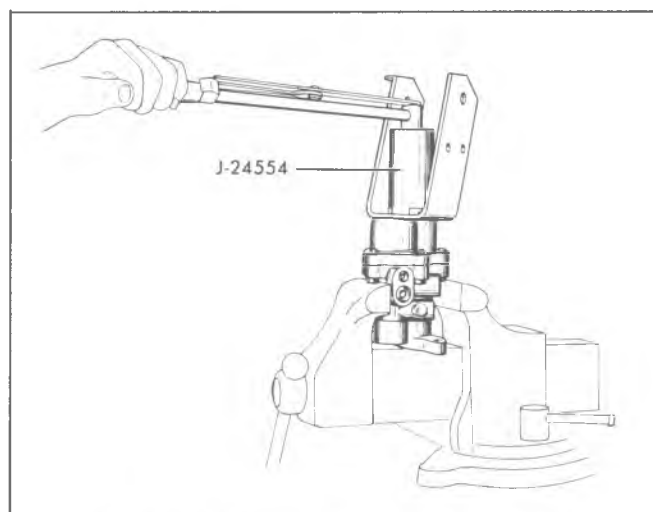

Fig. 5-15E--Installing Mounting Bracket Nut
21. Install the **NEW** bracket nut with the staking groove outward on the threaded hub of the booster. Using Tool J-24554 and a torque wrench (fig. 5-15E), tighten the nut to 110 ft. lbs.